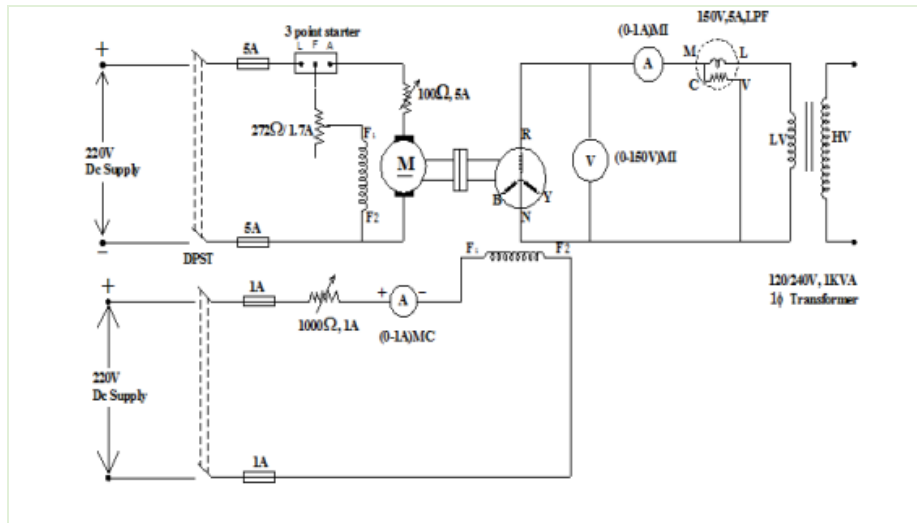

Figure 5 - SEPARATION OF CORE LOSSES IN SINGLE PHASE TRANSFORMER
1. Calculate the value of eddy current losses with respect to current and voltage and power parameters' obtained at different frequencies by maintain V/F as constant from Figure 5.